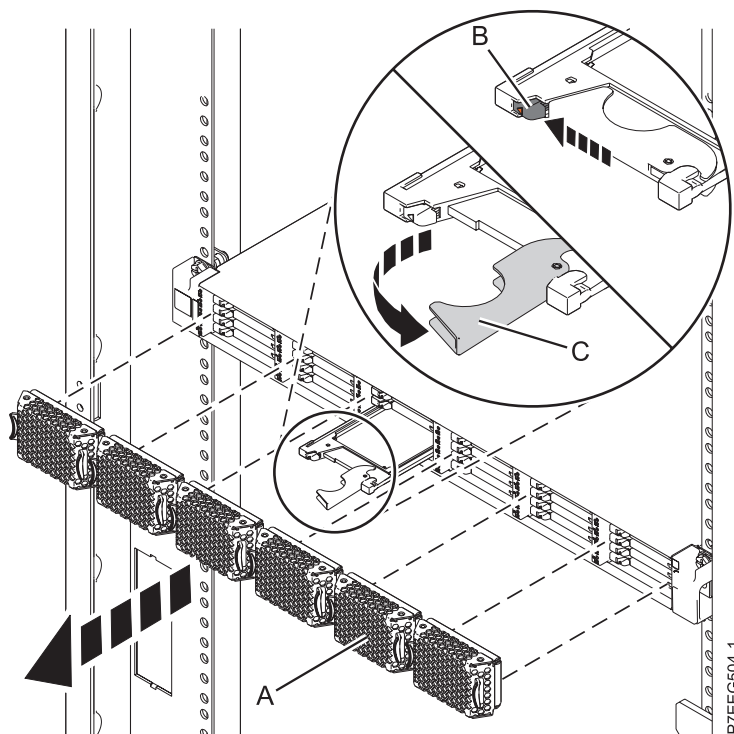

Figure 29. Removing the solid-state drive from the EDR1 PCIe storage enclosure
1. Pull off the bezel (A) that covers the slot that contains the solid-state drive.
4. When the solid-state drive identify LED turns on solid, slide the release latch (B) over gently to unlock the drive handle. See Figure 29.
5. Grasp the handle (C) and pull the drive partially out of the slot.